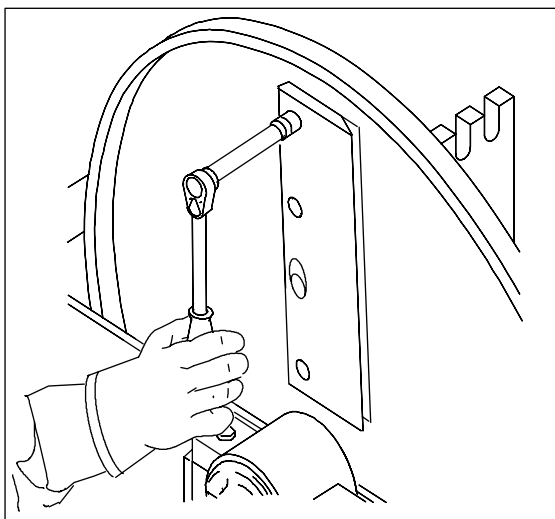

Fig. 19. Removing the knife fastening bolts
2. Remove the knife fastening bolts (M10). Turn the wrench in such a way that your hands would not hit the knife if the wrench should slip. Fig. 19.